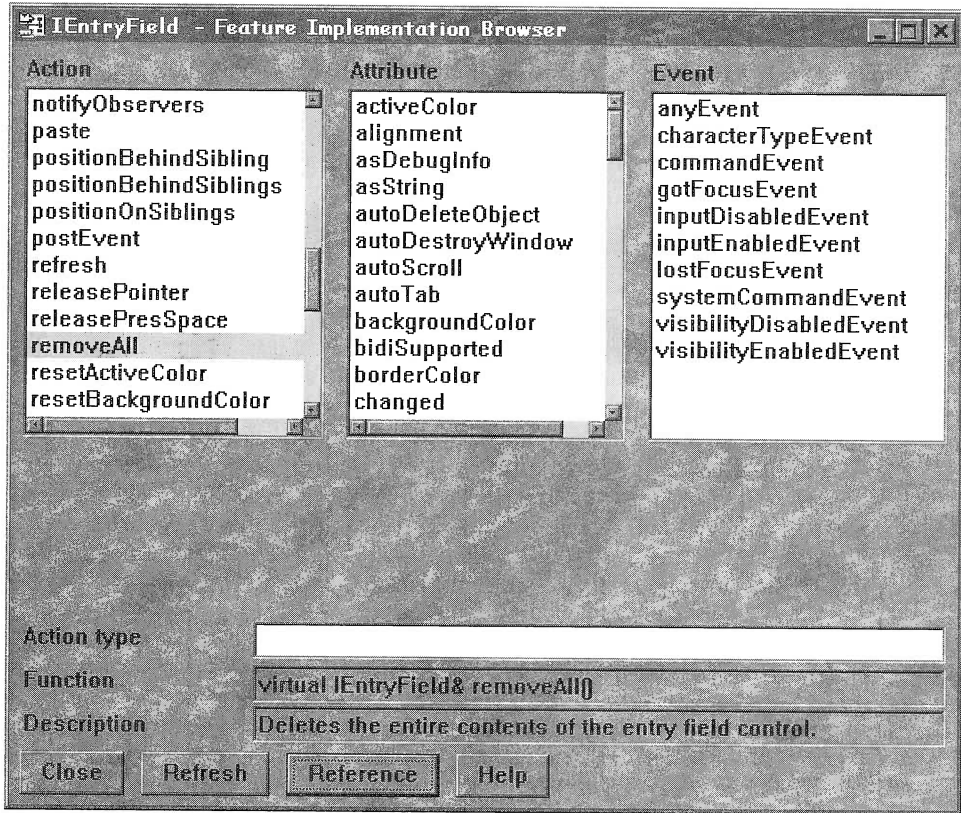

Figure 82: Browse Parts Features for the IEntryField part
- ❑ Select the **Browse Part Features ...** menu item which displays a dialog window as shown in Figure 82. This shows all of the actions, attributes, and events for the **IEntryField** part.
In the Windows version, notice the **Reference** push button in Figure 82. Pressing this button invokes the VisualAge for C++ help facility and opens a window showing the help for the type of control you are browsing.